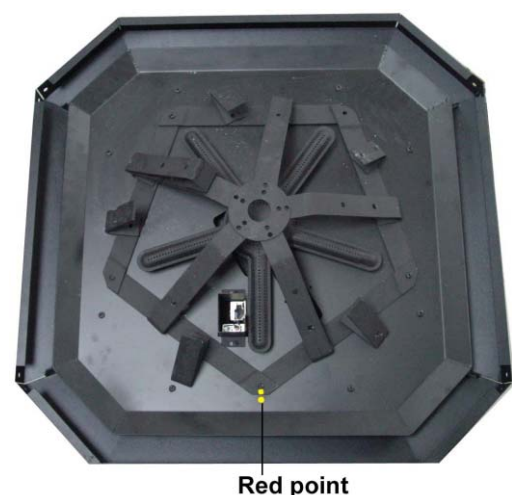

Figure 4-Place grate on burn plate
4. Place grate on burn plate. Make sure to line up the red mark and five holes of grate with that of burn plate. Then secure grate to burn plate with 5 4 x 14 Self-tapping Screws. (See FIG.4)